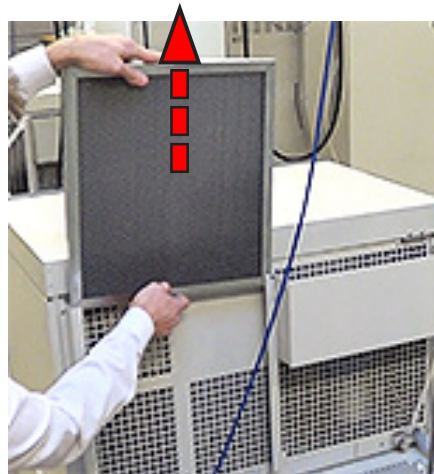

Figure 14.5a: Q-SUN Xe-1 Air Filter Removal
- Remove and inspect the air filter every month (Figure 14.5a).